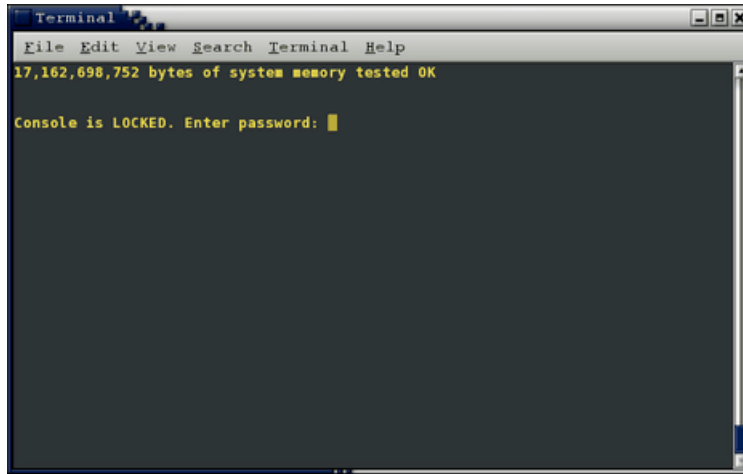

Figure 3-29 Console Administrative Password Prompt
7. When you reboot the system, the console will be locked and you will be prompted for a password before the system finishes booting and the `Shell>` prompt appears, as shown in Figure 3-29 on page 69.